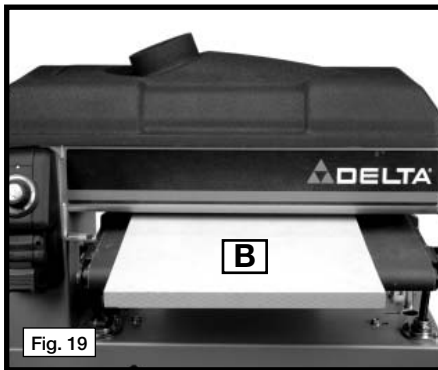

Fig. 19
- To check, sand a wide board (B) Fig. 19 (preferably 12" (30.5 cm) or more in width x 2 feet (61 cm) long) until it is flat across the total surface area on both sides.